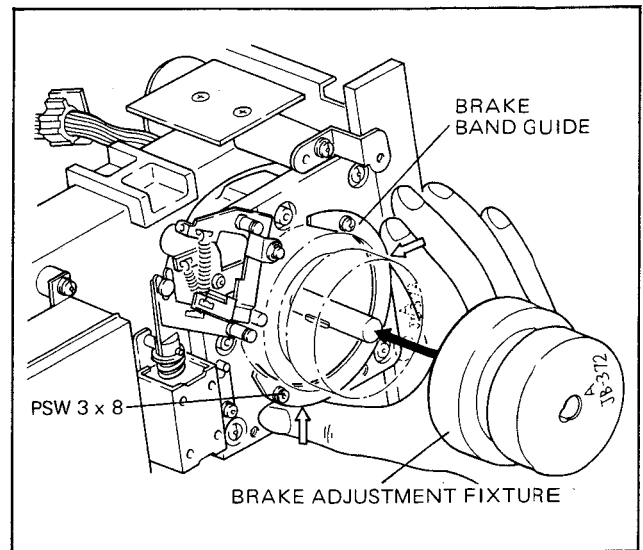

Fig. 3-27. Brake Band Guide Position Adjustment
15. Turn the side marked "A, JB-372" of the brake adjustment fixture in front and place it onto the reel motor shaft (see Fig. 3-27).